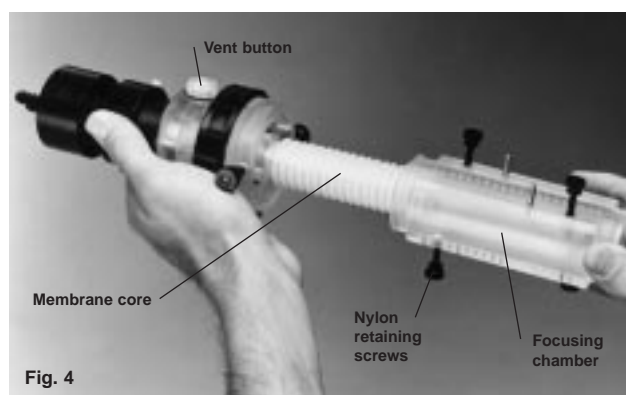

Fig. 4
3. Slide the focusing chamber over the membrane core with the metal pin in the small hole in the anode chamber (Figure 4). Position the focusing chamber so that each membrane screen lies between two adjacent ports. Lightly tighten the black, nylon retaining screws.